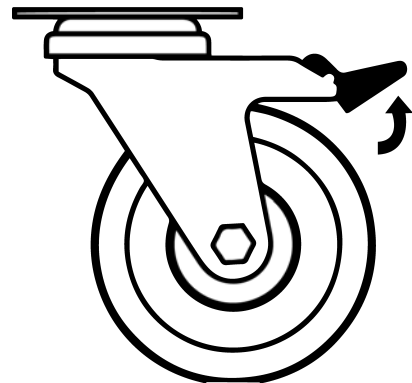

Fig 2. Castor Unlocked
- Please ensure when placing the refrigerator into place that the castors can be accessed so they can be locked (**Fig 3**) and unlocked (**Fig 2**). Please get in touch with your supplier or Thermoline should there be any castor damage.